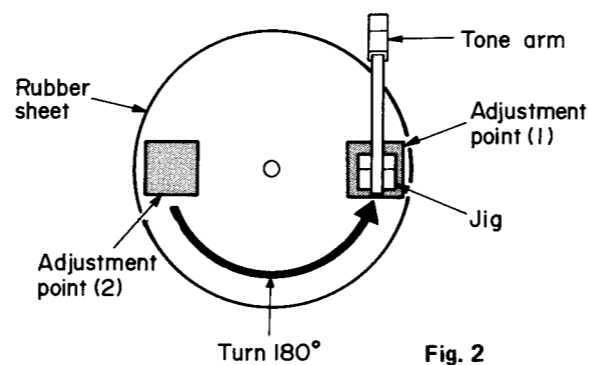

Fig. 2
- 2) Turn the turntable 180° after adjusting the height at adjustment point (1); if the stylus height at adjustment point (2) is 4.7mm or more, adjust it again. (Refer to Fig. 2)